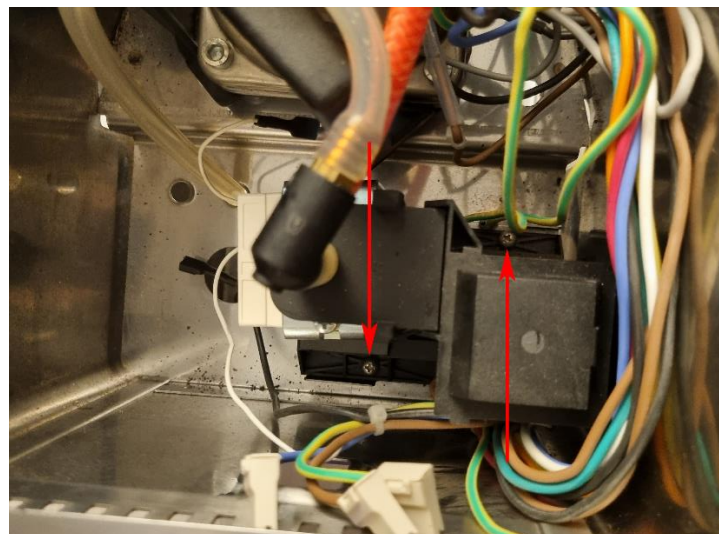

Fig. 3.2
- To remove the electronic board, you will have to remove the pump support. There are 2 screws at the base. (fig. 3.2)